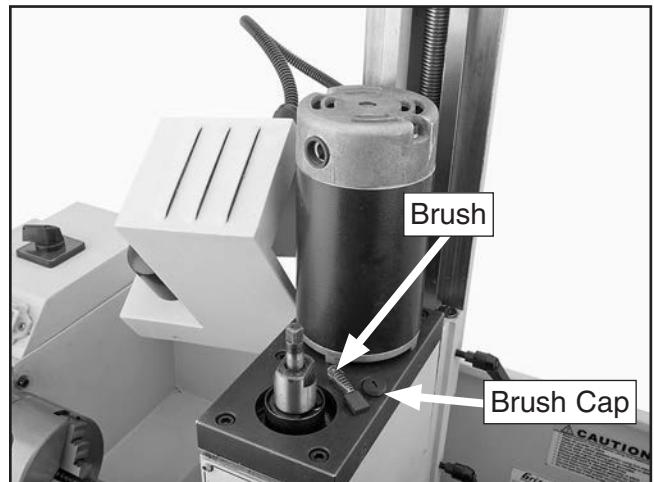

Figure 155. Front motor brush components removed.
3. Unscrew front brush cap and carefully remove brush from motor (see **Figure 155**).